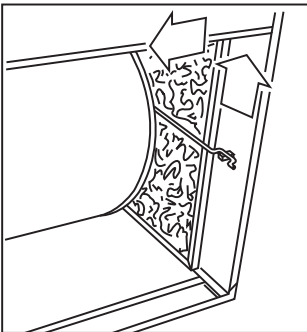

Fig. 25 - Release Filter Retaining Rod (Side Inlet) A93012
- **AIR FILTER(S) LOCATED IN BLOWER COMPARTMENT BOTTOM:**
- c. Slide filter retainer sideways until it is free of latch. (See Fig. 25.)